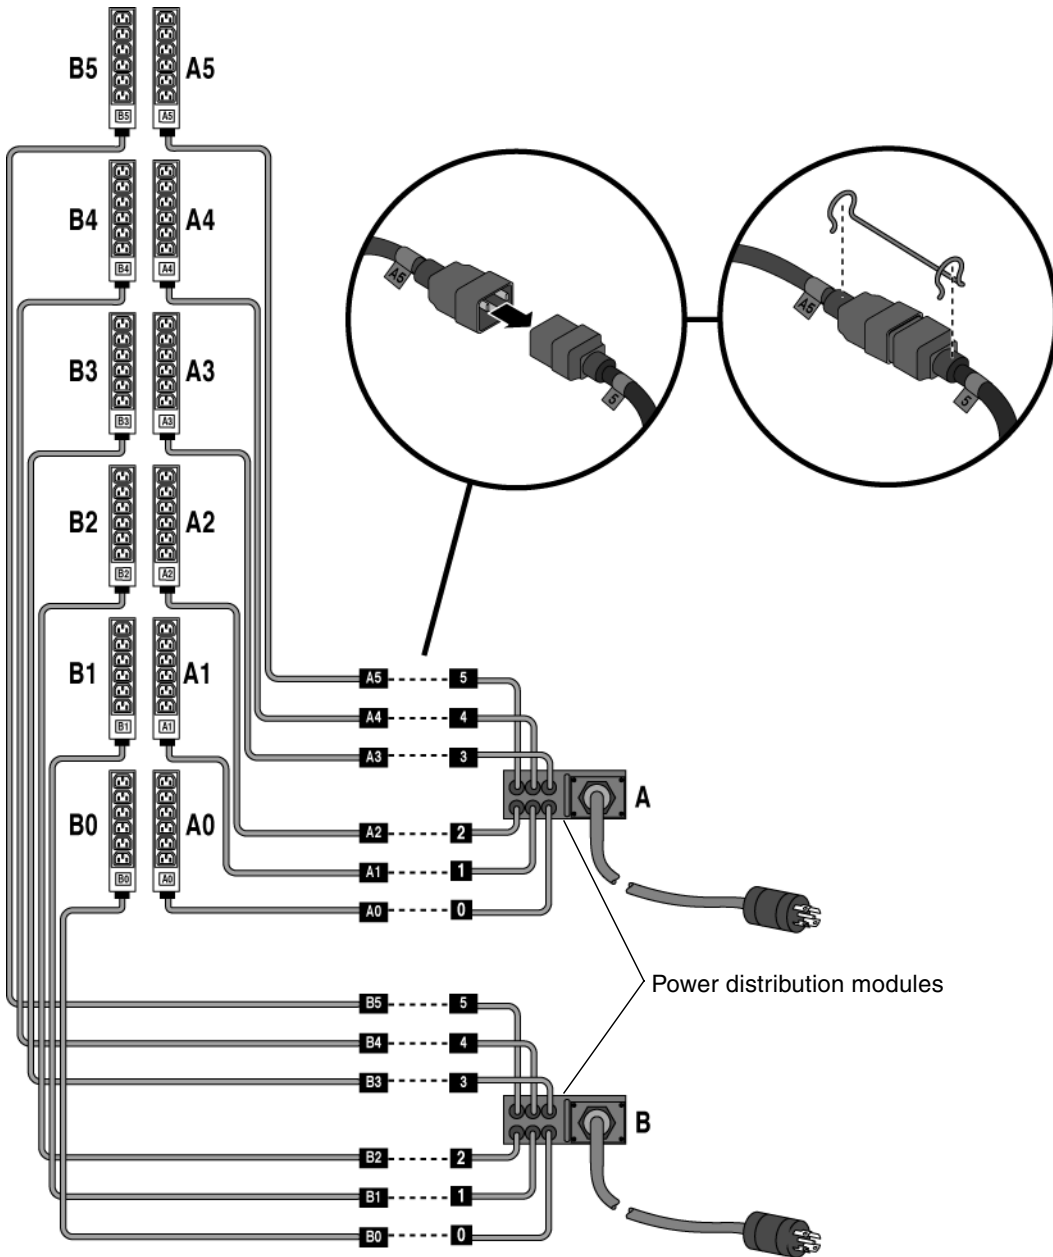

FIGURE 2-10 Connecting the Cable to the MPS Pig-Tail Cables
3. Attach the retaining clips to all the cable connections (FIGURE 2-10).